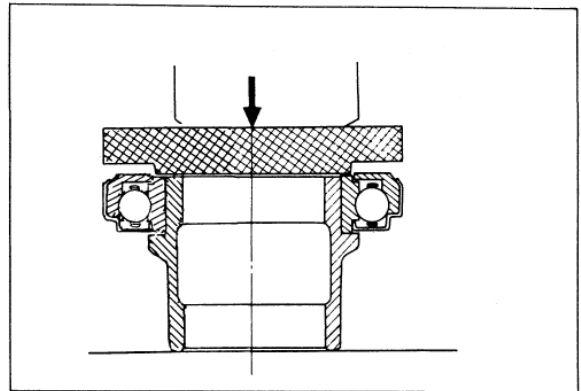

Fig. CL-12 Fitting release bearing
1. Tightly fit release bearing to the place on bearing sleeve as shown in Figure CL-12. When bearing is installed completely, turn bearing with a finger, and make sure that bearing operates smoothly.